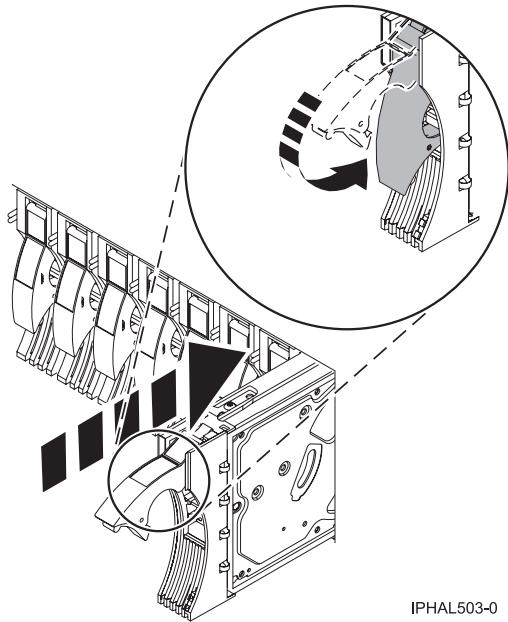

Figure 59. Installing a disk drive in a model or 11D/20
10. Slide the disk drive all the way into the system or expansion unit and then lock it in place by pushing in the disk drive handle, as shown in Figure 59.